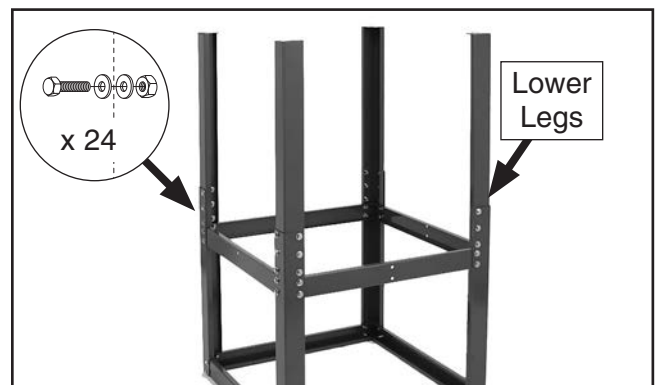

Figure 6. Lower legs attached to stand assembly.
3. Flip stand assembly upside down and install lower legs using (24) $\frac{3}{8}$ "-16 x $\frac{3}{4}$ " hex bolts, (48) $\frac{3}{8}$ " flat washers, and (24) $\frac{3}{8}$ "-16 lock nuts (see **Figure 6**).